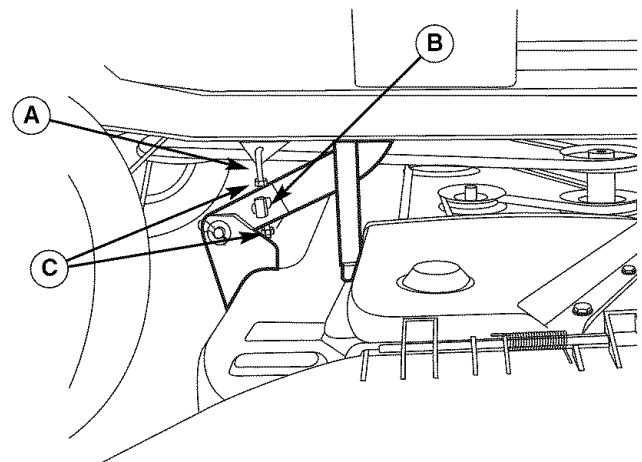

Figure 35. Side-to-Side Adjustment
6. See Figure 35. Side-to-side leveling is accomplished using the threaded rods (A) and trunnion (B) on the right and left rear sides of the mower deck. Loosen the jam nuts (C) and adjust the nuts up or down to adjust the mower level. When complete, tighten the jam nuts against the trunnion to lock the adjustment in place.